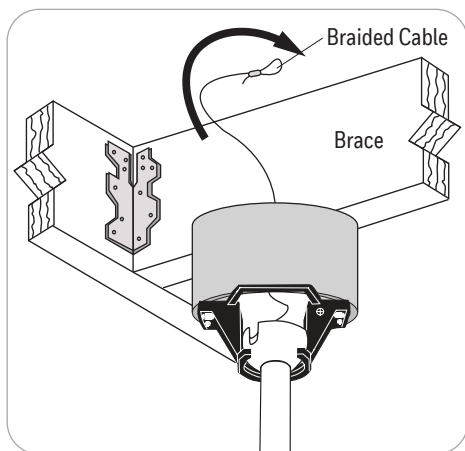

Figure 3.1
1. Feed the loop of the braided cable, preassembled to the motor assembly, up through the outlet box mounted in the ceiling (Figure 3.1).